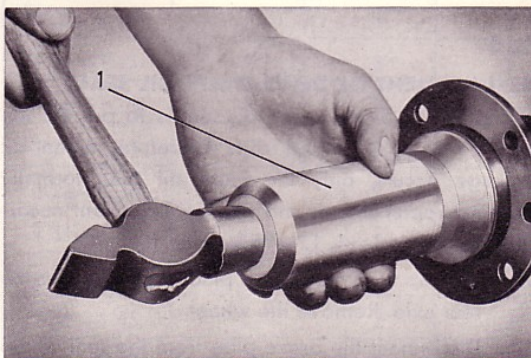

Fig. 12. Fitting oil seal
4. Drive in the new oil seal. Make sure that it is driven in correctly. Use tools SVO 1801 and SVO 2456, see Fig. 12.